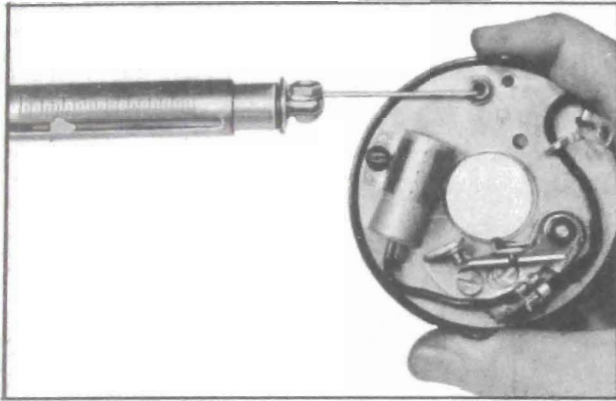

Figure 10-59—Checking Tension of Base Plate
6. Whether breaker plate has been disassembled or not, attach a scale and check the pull required to move the base plate on the support plate. The pull should not exceed 18 ounces nor be less than 11 ounces. See figure 10-59.